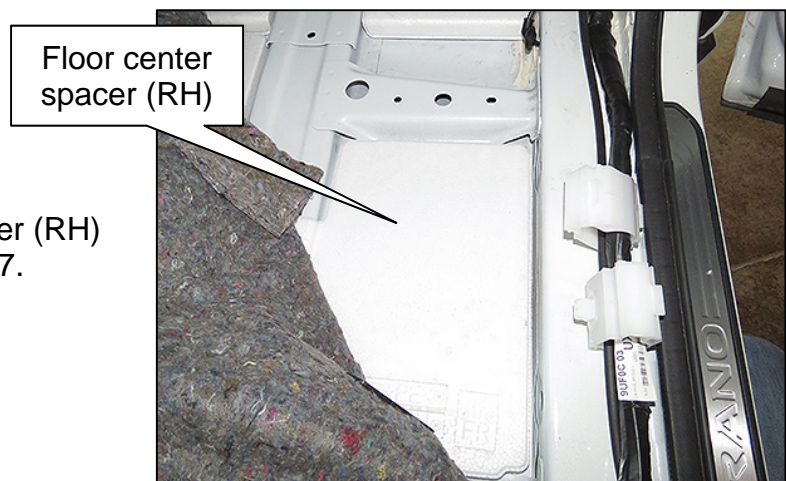

Figure 17
17. Remove the floor center spacer (RH) foam panel shown in Figure 17.